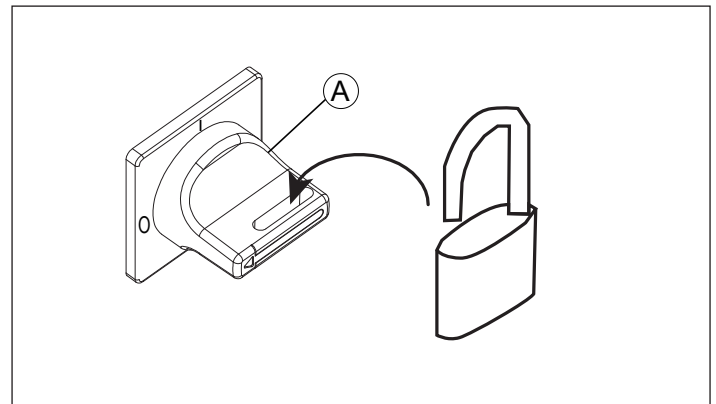

Fig. 7.1
To switch off the power supply, turn main switch A (fig. 7.1) to the zero (0) position and lock it with a padlock. Switch off the compressed air supply.